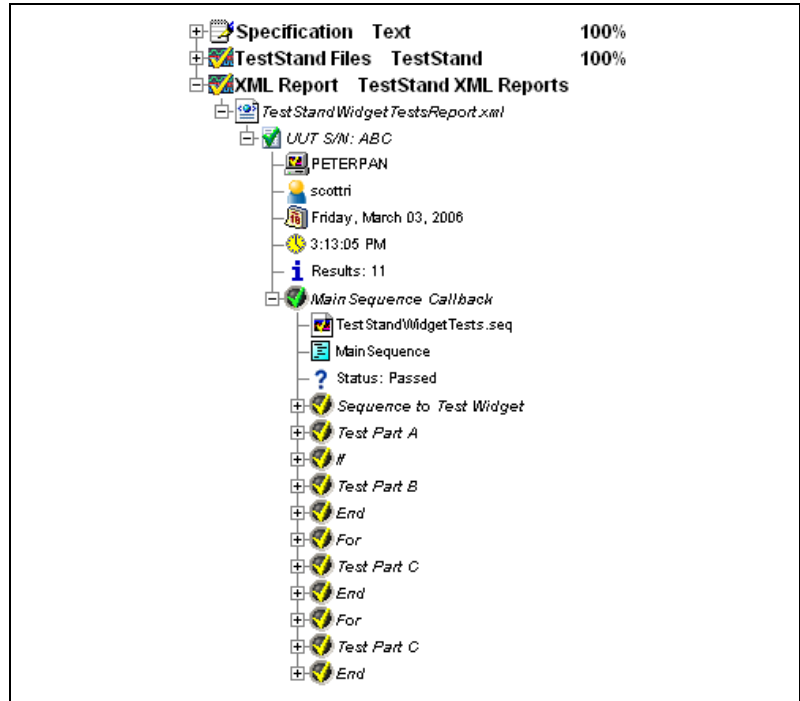

Figure 6-3. TestStand XML Report Document Expanded in the Management View
12. Expand the XML Report document in the Management View. Requirements Gateway displays `TestStandWidgetTestsReport.xml` under the XML Report document, as shown in Figure 6-3.